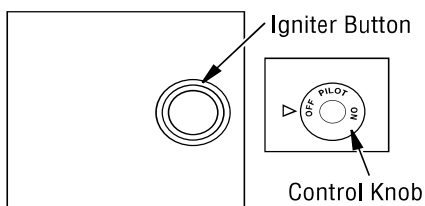

Figure 38 - Control Knob and Igniter Button Location
5. Wait five (5) minutes to clear out any gas. Then smell for gas, including near the floor. If you smell gas, STOP! Follow "B" in the safety information, column 1. If you don't smell gas, go to the next step.
6. Press in and turn control knob counterclockwise ↻ to the PILOT position. Press in control knob for five (5) seconds (see **Figure 38**).